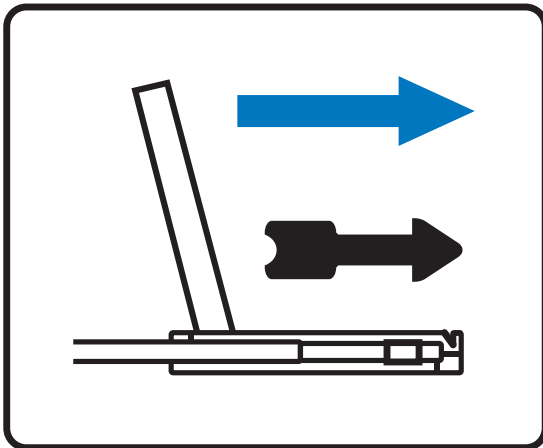

Figure 13.
- Pull and hold the black arrow button on either side of the LCD keyboard drawer to unlock. (shown in **Figure 13**).